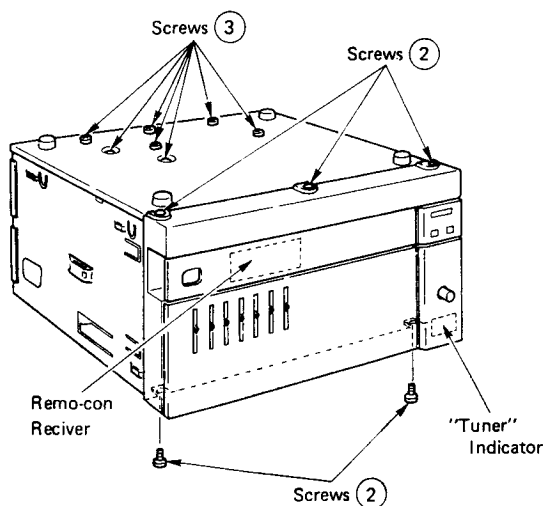

Fig. 2
- 1) After the top cover has been removed, remove the five front panel fixing screws (2) as shown in Fig. 2.
- 1) Remove seven bottom cover fixing screws (3) as shown in Fig. 2.